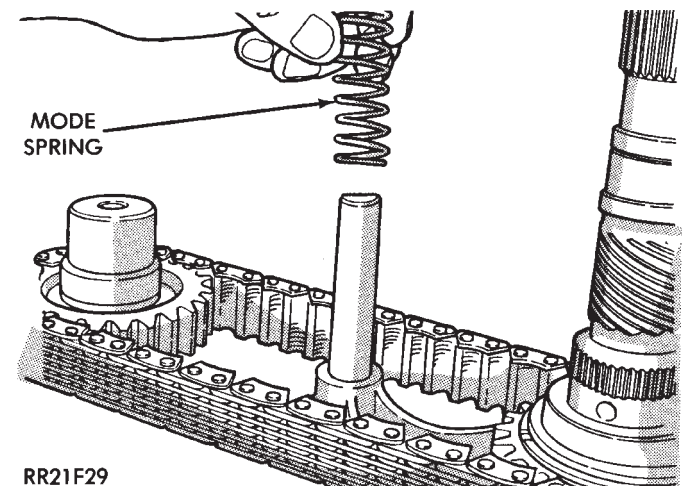
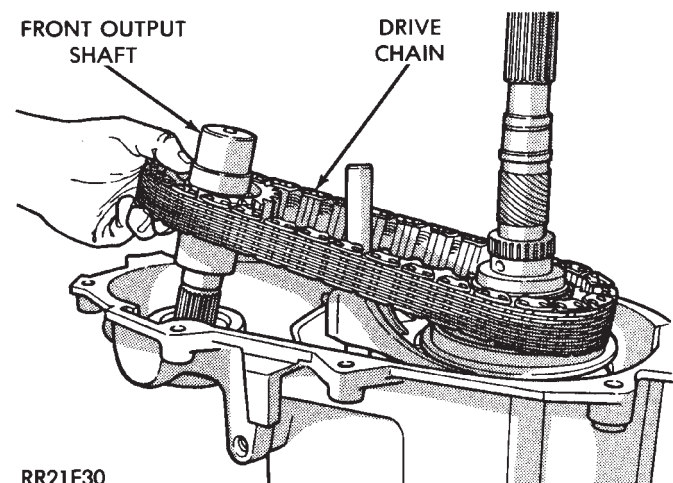

Fig. 9 Mode Spring Removal
Fig. 10 Front Output Shaft And Drive Chain Removal
(19) Remove mode spring (Fig. 9).
(20) Tap front output shaft upward with a rawhide mallet to free it from shaft bearing.
(21) Remove front output shaft and drive chain as assembly (Fig. 10).